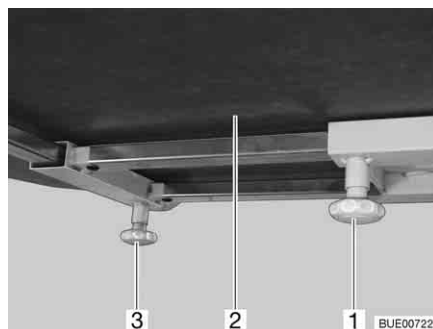

Fig. 119 Moving the table-top (alternative)
- Loosen knurled screw (Fig. 119,1).
- Push the table-top (Fig. 119,2) into the desired position.
- Loosen knurled screw (Fig. 119,3).